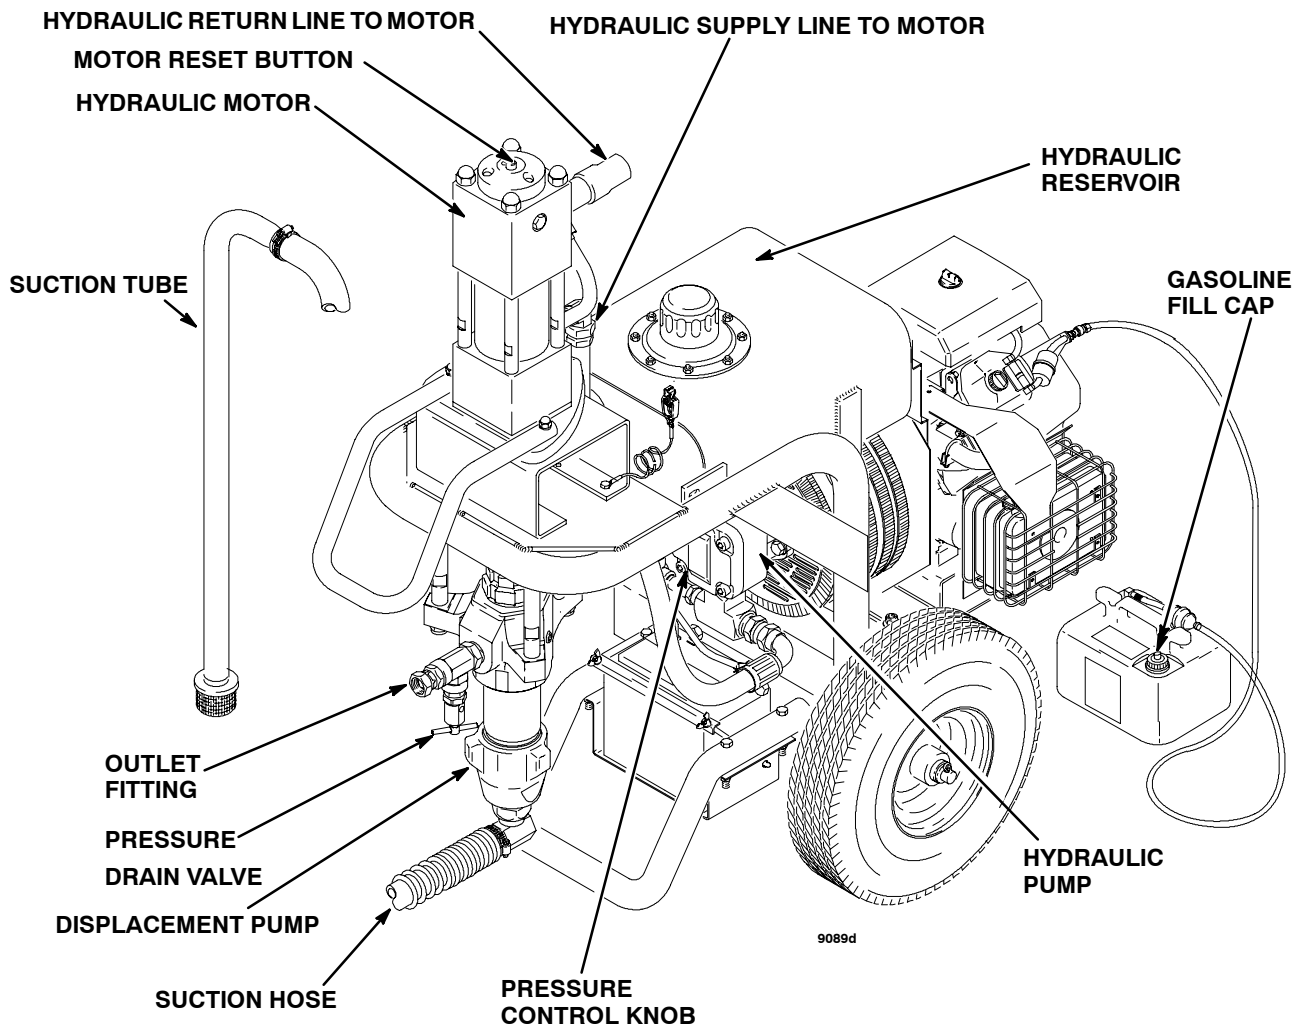

Fig 1
- a. Remove the plastic cap plug from the outlet tee and screw an accessory, conductive or grounded spray hose onto the 1/4 npsm(f) outlet fitting. See Fig 1.